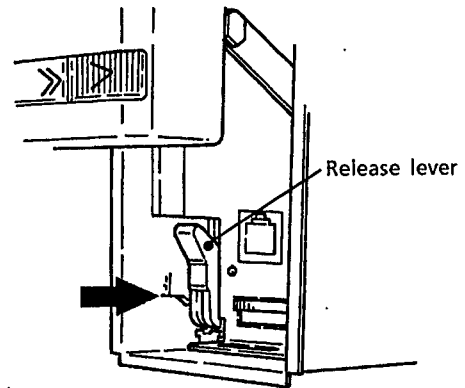

Figure 3.10 Installing the Internal Unit 2
- ② Firmly push the release lever upwards (see Figure 3.10).
- ③ Swing down the front panel (see Section 3.2 "Swinging the Front Panel Up and Down").